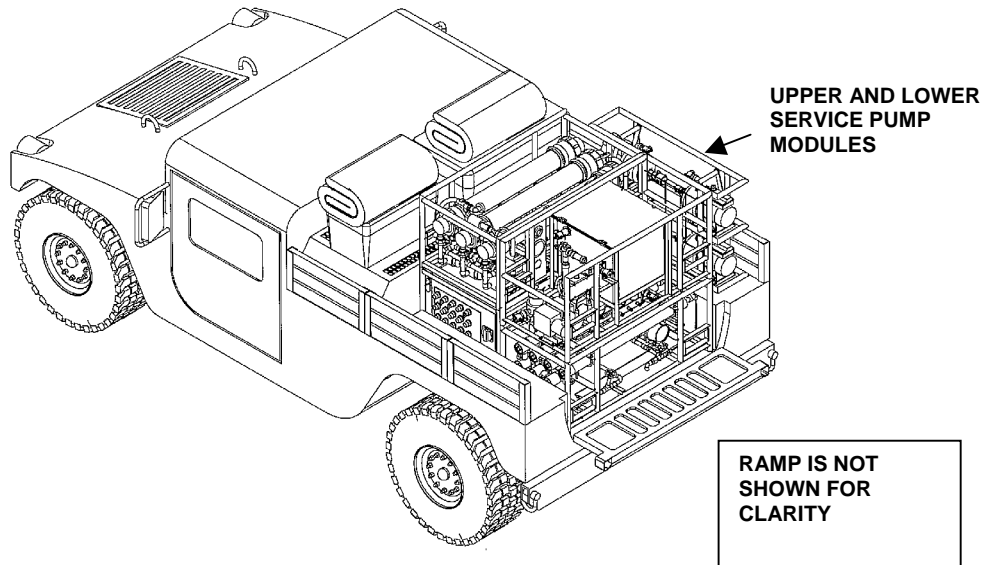

Figure 7. Offloading Service Pump Skids.
4. Offload the upper service pump module from the right side of the HMMWV cargo compartment. See Figure 7.